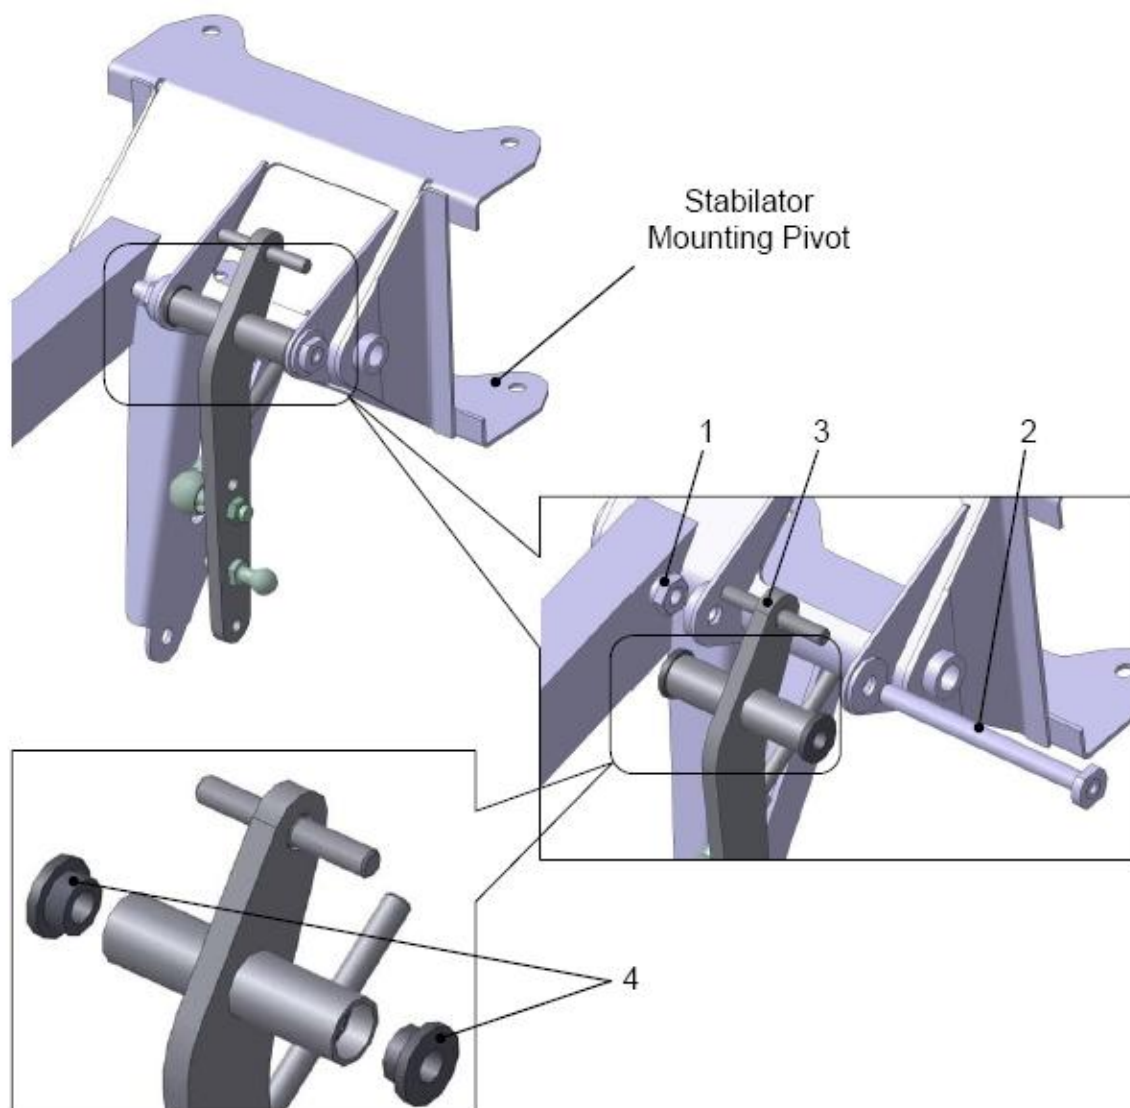

Fig. 4-11
- Screw out the lock-nut (1) and screw out the bolt (2), remove the rocker (3), Fig. 4-11;
- Remove the bearings (4) from the rocker (3);
- Install the rocker on the Stabilator mounting pivot. For this match holes of the rocker (3) with holes of the Stabilator mounting pivot. Then insert the bolt (2) and tight it up to provide slightly tight rocker rotation without backlash. After that tight the lock nut (1) to fix the bolt (2).